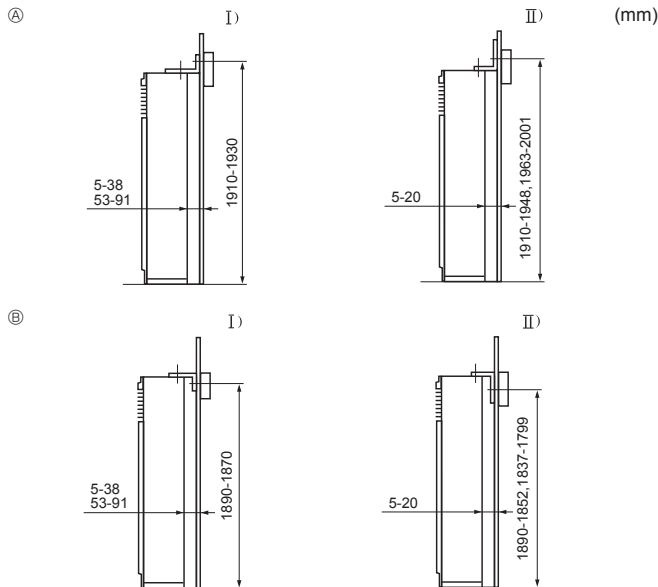

Fig. 3-3
- ① Tip-over prevention bracket
The tip-over prevention bracket ① is set on the top surface of the unit. Remove the tapping screws ②, and then reinstall the bracket, as shown in the illustration. For the proper installation distances, see Fig. 3-3.
- Ⓞ Remove the screw ④ and then pull the grill forward to remove it.
### 3.3. Mounting the tip-over prevention bracket (Fig. 3-3)